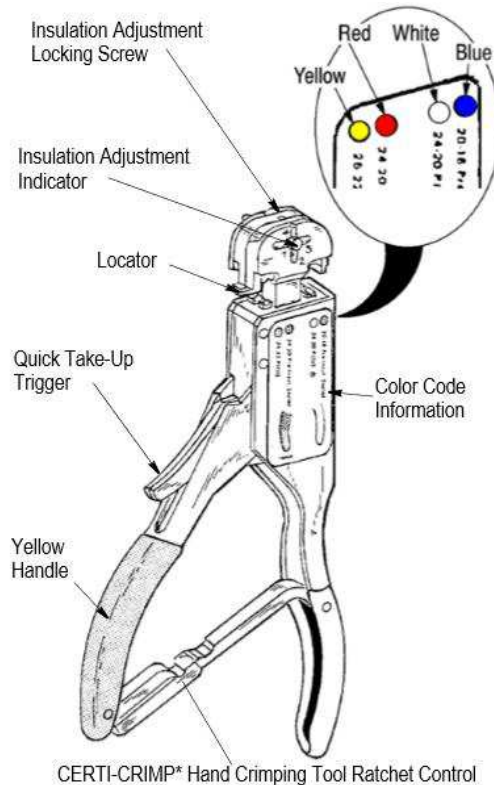

Figure 1
This instruction sheet covers the use of T-HEAD Crimping Tools 59170, 59250, 59275, 59300, 69692-1, and 69693-1 (see Figure 1). These tools crimp:
Note that tool handles and terminal, splice and cap insulation are color-coded for a given wire range as listed in Figure 2. Crimp the color-coded terminal, splice or cap in the matching color-coded portion of the tool. For example, when using Hand Tool 59275, yellow-coded PIDG terminals and splices and red-coded pre-insulated seated splices must be crimped in that portion of tool displaying the red and yellow coded dots and yellow handle (see Figure 1).
- Open crimping dies by closing handles until ratchet releases (see Figure 1). **Note:** once ratchet is engaged, handles cannot be opened until the tool has fully cycled.